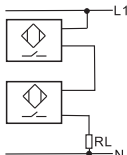

Fig. 12
3. Series connection of two-wire AC sensor.(Fig.12)